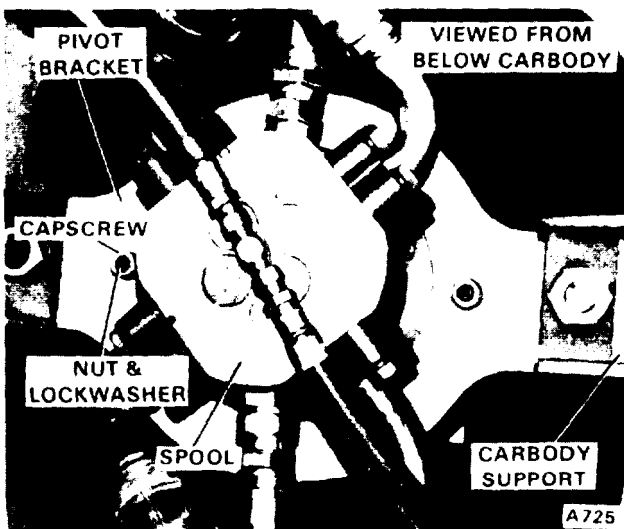

Figure 5D-7. Swivel Removal
**REMOVAL.** If leakage between the swivel body and the spool is detected, the swivel must be removed from the machine for repair. To remove the swivel for seal replacement or other maintenance, proceed as follows (see Figure 5D-7):